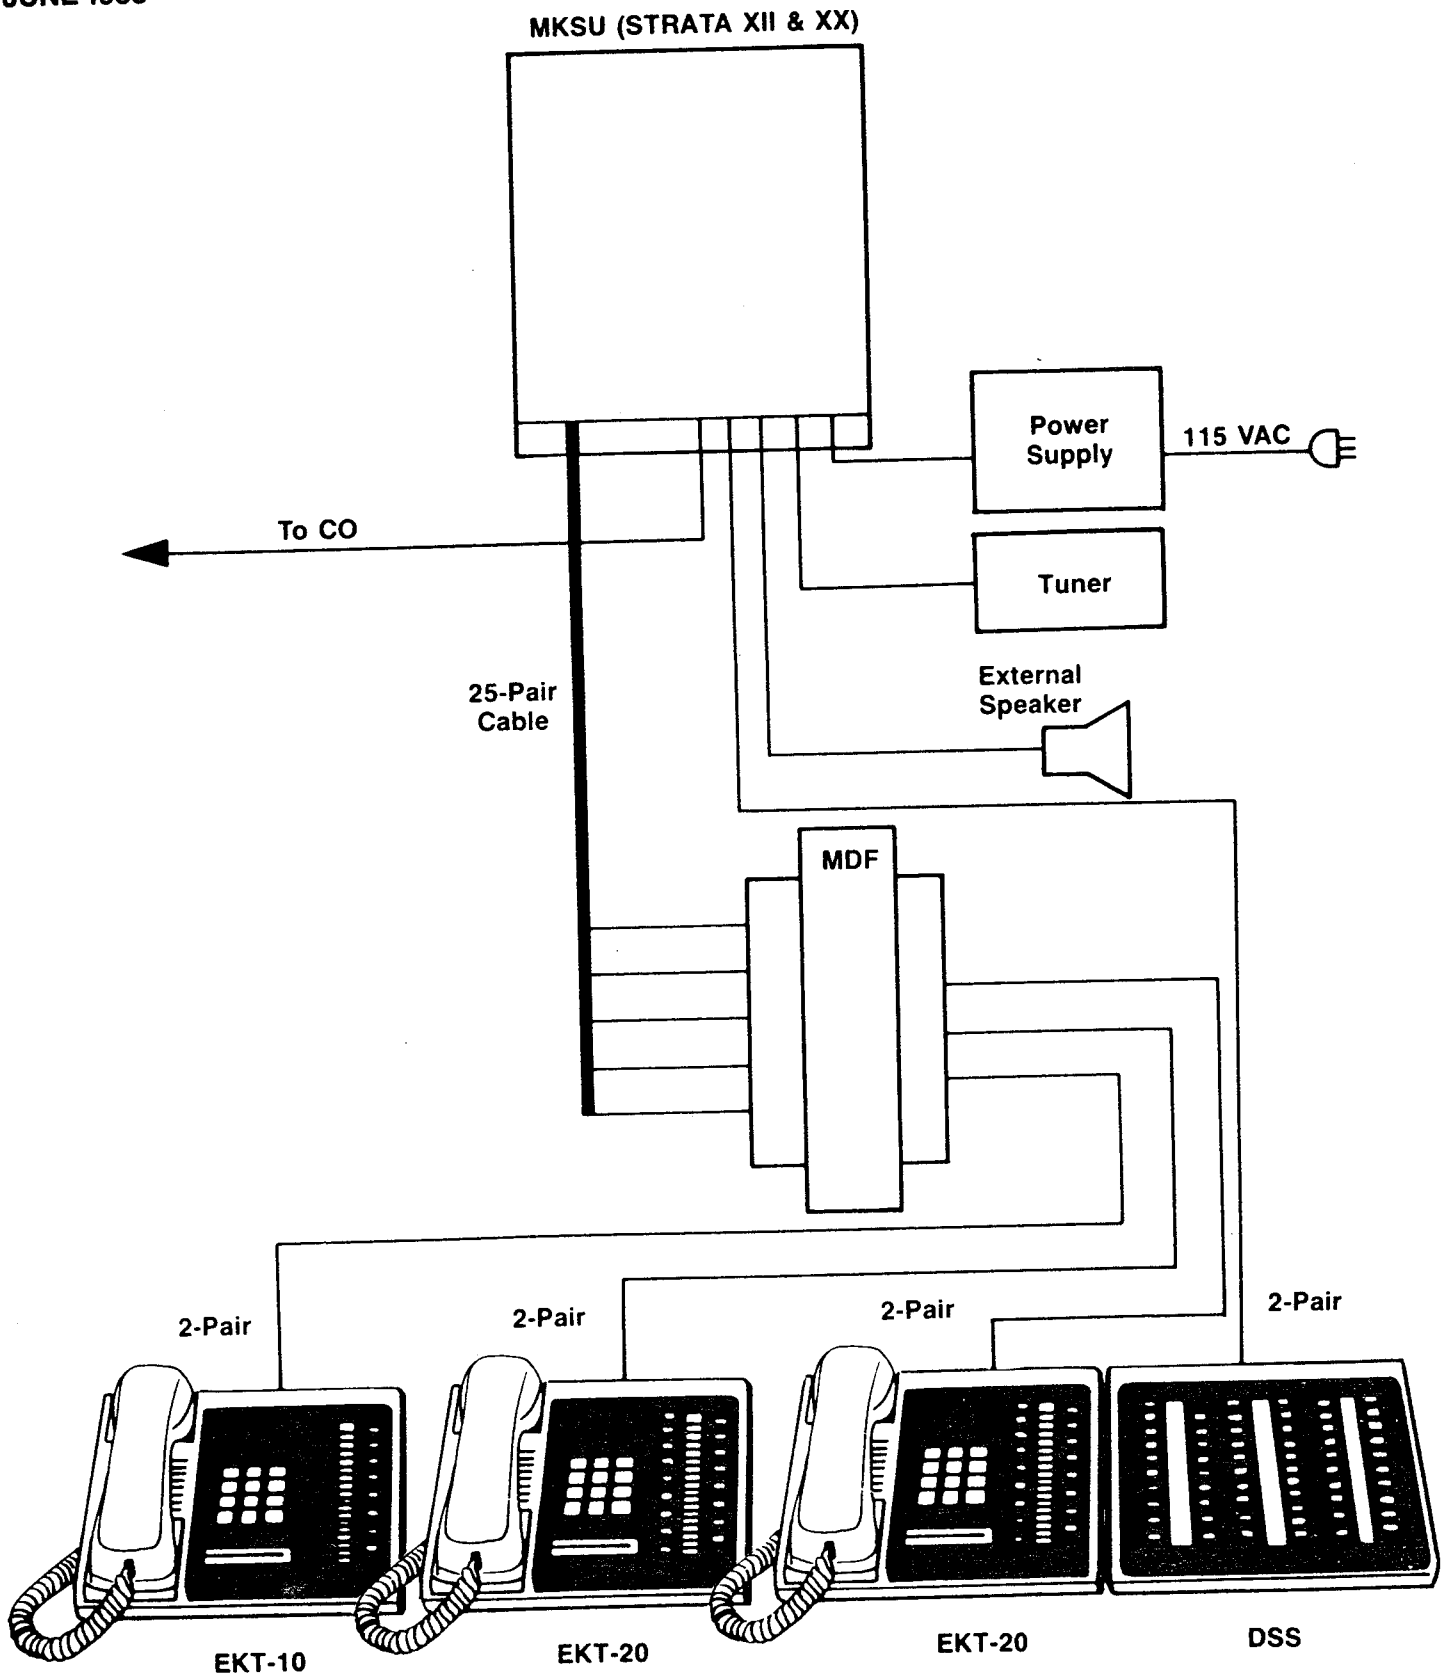

FIGURE 20—SYSTEM DIAGRAM
08.01 The system (Figure 20) consists of an MKSU, power supply and up to 32 (STRATA XII) or 56 (STRATA XX) electronic key telephones (EKTs). All connections between the MKSU and EKTs are made via a customer-provided main distribution frame (MDF). Using modular line cords, the CO lines are then connected between the MCOU PCBs and the telephone company-provided RJ-25C jacks. An external tuner